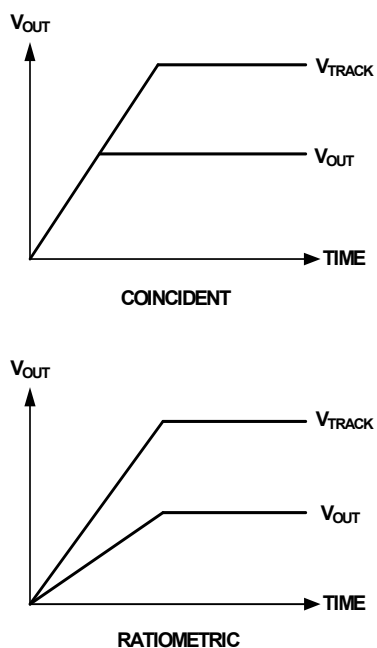

FIGURE 9. TRACKING MODES
**Figure 9** illustrates the typical connection and the two tracking modes: